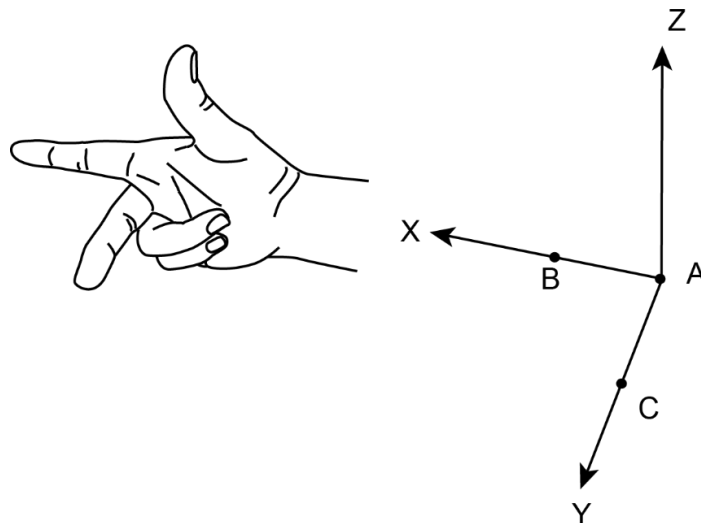

Figure 5.7 Area
- Area: User coordinate system is created by three-point calibration method. Move the robot to three points  $A(x_1, y_1, z_1)$ ,  $B(x_2, y_2, z_2)$ , and  $C(x_3, y_3, z_3)$ . Point A is defined as the origin and the line from point A to Point B is defined as the positive direction of X-axis. The line that point C is perpendicular to X-axis is defined as the position direction of Y-axis. And then the Z-axis can be defined based on the right-handed rule, as shown in Figure 5.7.